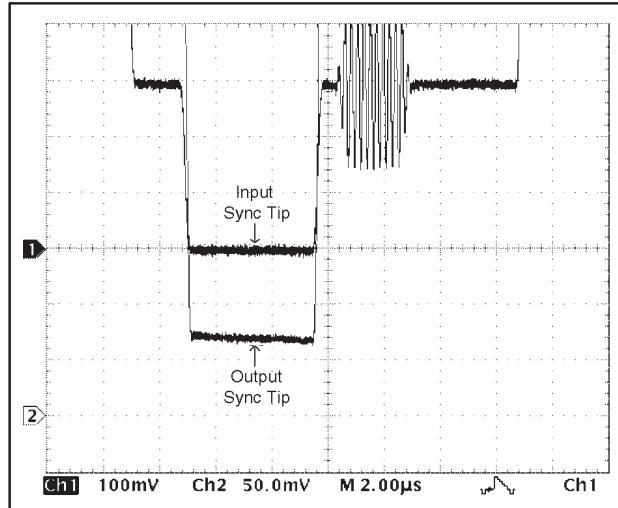

Figure 6. Internal Level Shifter, Shifts Input Signal by Approximately 60mV to Prevent Sync Tip Clipping
b. Test circuit for Figures 6, 8, and 16.
approximately 60mV. This is well within the linear output voltage range of the OPA360 with a standard 150Ω video load. Figure 6 shows the function of the level shifter.